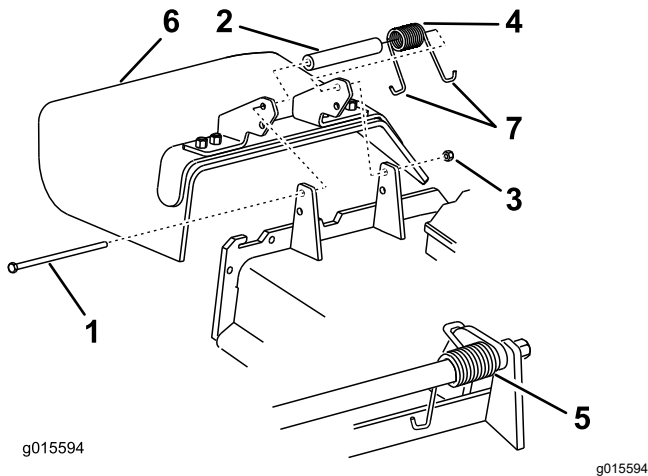

Figure 88
1. Remove the locknut, bolt, spring, and spacer holding the deflector to the pivot brackets (Figure 88).
Note: Ensure that a J-end of spring is installed behind deck edge before installing the bolt as shown in Figure 88.
5. Place a J-hook end of spring around grass deflector (Figure 88).